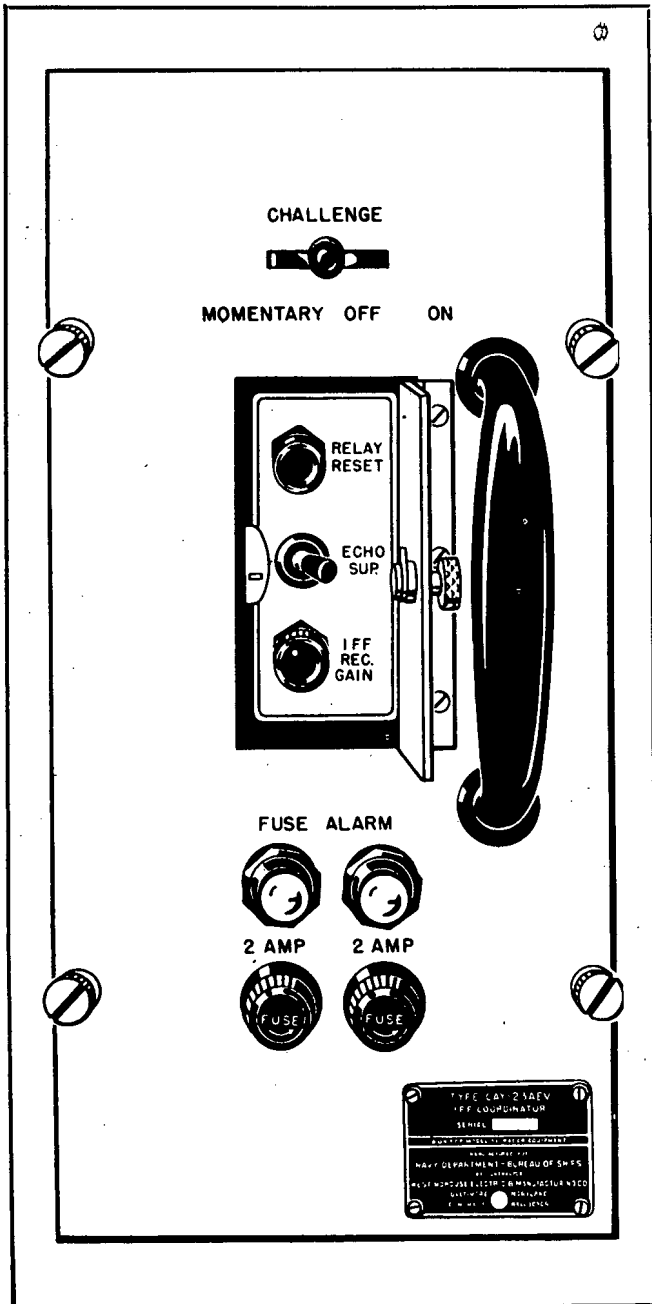
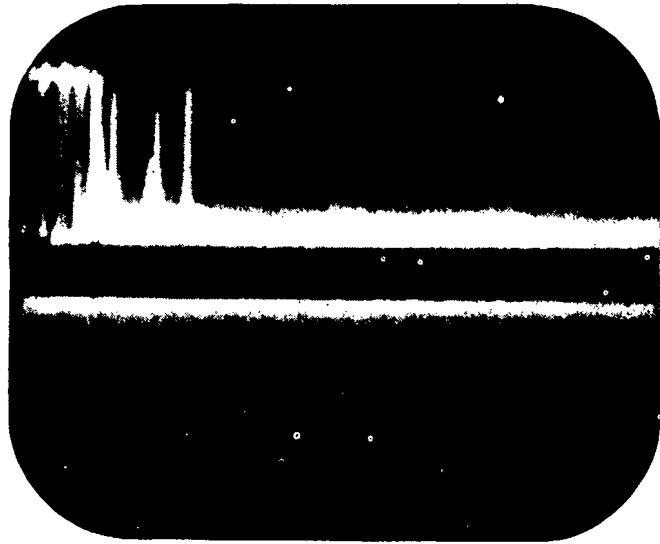
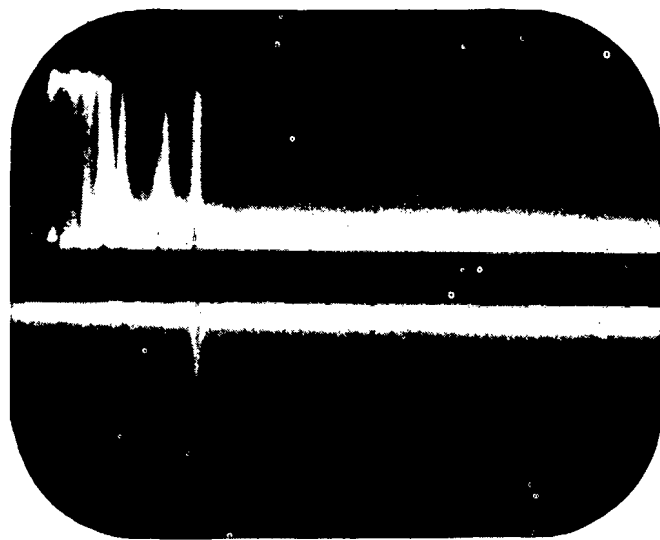

Figure 4-13. IFF Coordinator, Operating Controls
Figure 4-17. IFF Sweep on Range Scope
Figure 4-18. IFF Target on Range Scope
(11) Place the CHALLENGE switch in its OFF position. See Fig. 4-13.
(12) A fine horizontal line should be observed on the face of the range scope tube. This line runs horizontally across tube and should appear just above
(16) Turn off the range step by pushing the RANGE STEP control in towards the panel and turn off the MARKERS switch. Adjust the CHALLENGE switch shown in Fig. 4-13, to the MOMENTARY position. Hold it there for a moment and observe the pattern on the Range Scope. A second line should appear about three-eighths of an inch below the numbered scale as shown in Fig. 4-17. If it does not appear, or if it is not in the proper position, the IFF Coordinator should be adjusted by maintenance personnel. Grass from the IFF receiver should be visible. If it is
(18) If the radar target is equipped with IFF equipment, a pattern similar to the one shown in Fig. 4-18 will be obtained, when the CHALLENGE switch is operated to either the MOMENTARY or ON positions.
automatically, the SLEWING MOTOR switch should be switched to the OFF position so that the antenna can be operated by the HAND SLEW control. The HAND SLEW control is operated so that the height of the target will be as great as possible on the Range Scope screen. If it is desired to find out whether or not the target is friendly, the CHALLENGE switch on the IFF Coordinator is moved to the MOMENTARY position. See Fig. 4-13. The IFF base line will appear on the Range Scope. If the target is friendly and equipped with IFF equipment a signal will appear below the radar target extending downward from the IFF base line. See Fig. 4-18. If no such indication appears, the radar target is an enemy target or a friendly target not equipped to respond to the ship's IFF equipment. Operating the CHALLENGE switch to the ON position will also provide an IFF response from the target. However, it is better to set the switch to the MOMENTARY position and only hold it there long enough to secure a convincing response from the target. This will help prevent the enemy from discovering the frequency of the IFF equipment.